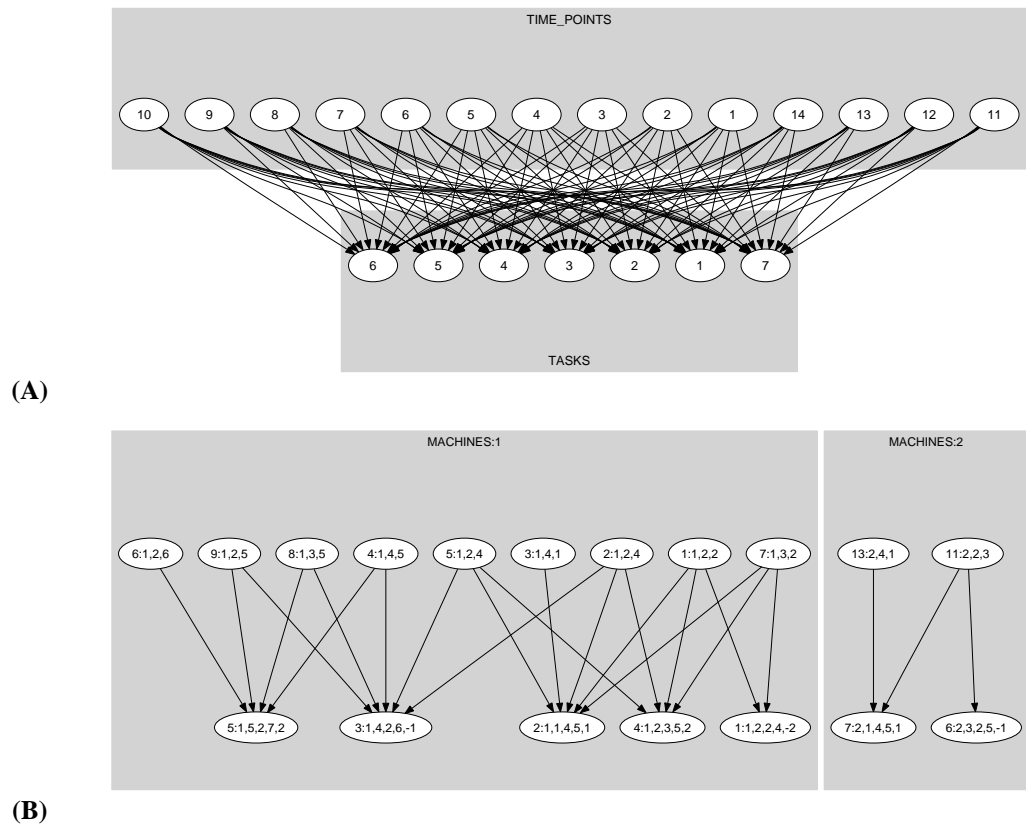

Figure 5.177: Initial and final graph of the cumulatives constraint
Within the context of the second graph constraint, part (A) of Figure 5.177 shows the initial graphs associated with machines 1 and 2 of the **Example** slot. Part (B) of Figure 5.177 shows the corresponding final graphs associated with machines 1 and 2. On the one hand, each source vertex of the final graph can be interpreted as a time point p on a specific machine m . On the other hand the successors of a source vertex correspond to those tasks that both overlap that time point p and are assigned to machine m . Since they do not have any successors we have eliminated those vertices corresponding to the end of the last three tasks of the TASKS collection. The *cumulatives* constraint holds since for each successor set \mathcal{S} of the final graph the sum of the height of the tasks in \mathcal{S} is greater than or equal to the capacity of the machine corresponding to the time point associated with \mathcal{S} .